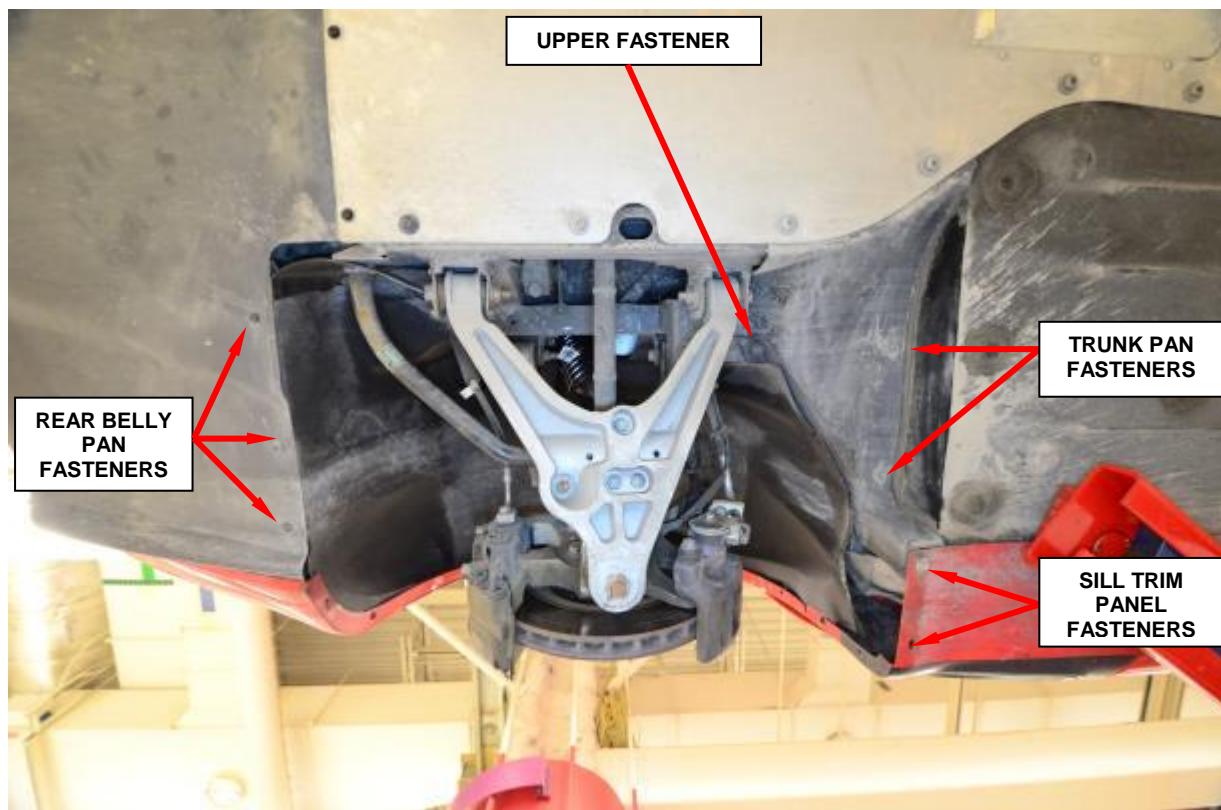

Figure 34 – Sill Trim Fasteners
- d. Remove the two fasteners to the trunk pan (Figure 34).
- e. Remove the two sill trim panel fasteners (Figure 34).
- f. Remove the upper fastener from the rear wheelhouse splash shield (Figure 34).
- g. Remove the three rear belly pan fasteners (Figure 34).